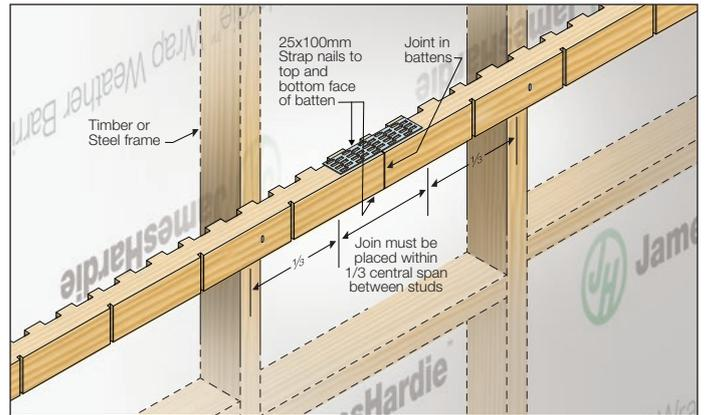

FIGURE 10 OFF-STUD JOINTING OF BATTENS - OPTION 1
- ① **Batten Joining** Refer to Fig.10 to 14
- ② **Batten Fastener** Refer to Table 3
- ③ **Batten Spacing** Refer to Tables 4 & 5
- ④ **Concealed Fixing** Refer to Table 5
- ⑤ **Stud Spacing** Refer to Tables 4 & 5
- ⑥ **Face Fixing** Refer to Table 4
- ⑦ **Nail Distribution** See diagram below